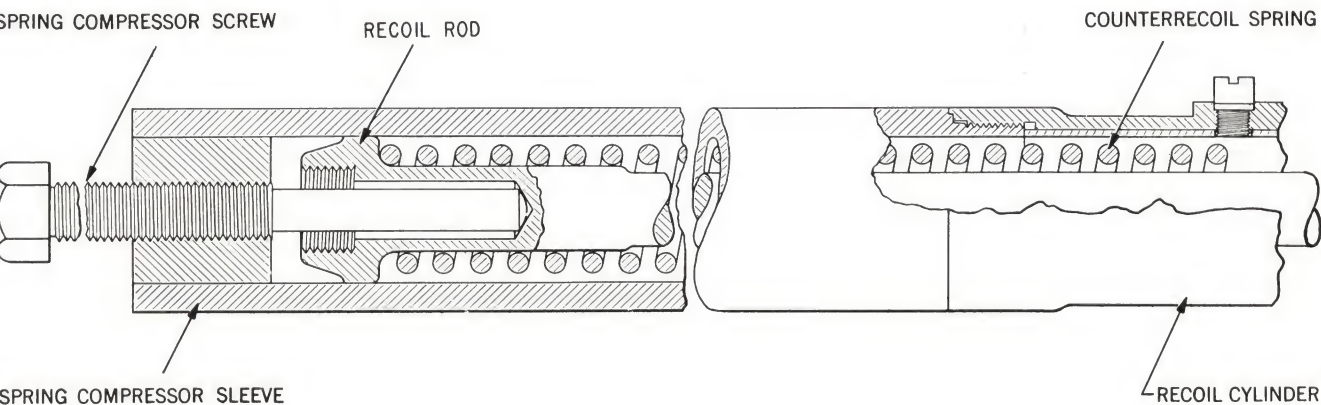

Figure 6-7. Recoil Cylinder Spring Compressor Tool Operation
3. Remove lockpin (10) and back out choke valve until threads disengage. Unscrew gland (16) and remove choke valve, gland, and packing (17) together. Take packing off valve and pull valve through gland.
4. Insert threaded portion of spring compressor (figure 6-7) into recoil cylinder and turn spring compressor screw (figure 6-7) to take up counter-recoil spring thrust.
8. Slowly unscrew compressor screw (figure 6-7) until counterrecoil springs are free and recoil rod can be removed. Remove spring compressor and pull out recoil rod, spring separator (25, figure 7-4) and spring (24).
9. Remove bolts (5) that retain packing gland (7) and remove gland. Remove packing (26, 27 and 28).